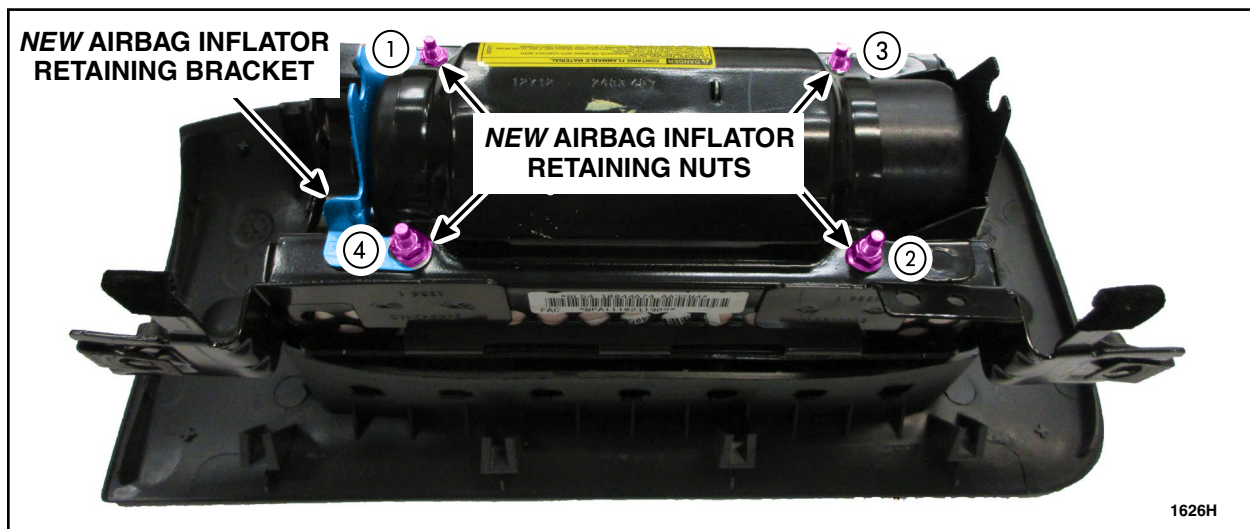

**FIGURE 8**
11. Install the inflator into the passenger airbag assembly with the orange connector end facing out. Align the three tabs on the cap nearest the inflator retaining bracket with the airbag module lower channel (facing down). See Figure 8.